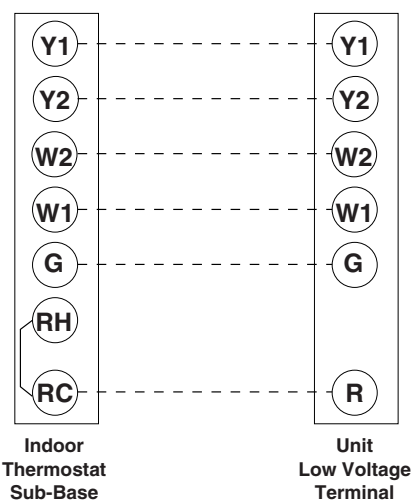

Figure 7. Typical Connections - 2 Stage Heat/Cool T-Stat
- Connect the cable leads to the subbase or thermostat terminals and to the unit's low voltage terminal block as shown in Figure 7. A system wiring diagram is also provided on the inside of the control access panel and in Figure 8a and 8b of these installation instructions.